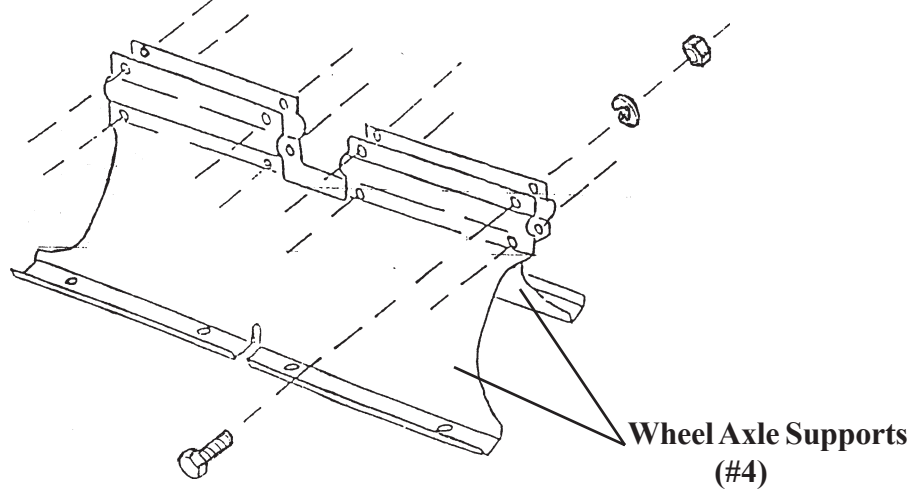

Figure 4
Step 4: As shown in Figure 4 below, bolt the 2 Wheel Axle Supports together using 8 Bolts (#25), 8 Washers (#23) and 8 Nuts (#24). Note: Only hand tighten these 8 Bolts (#25) now, Bolts should be securely tightened once Wheel Axle is installed (see Step 6, page 5).